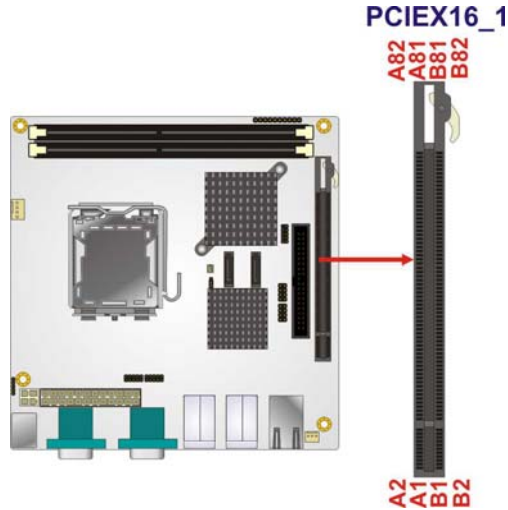

Figure 4-9: PCI Express x16 Slot Location
- CN Location:** See Figure 4-9